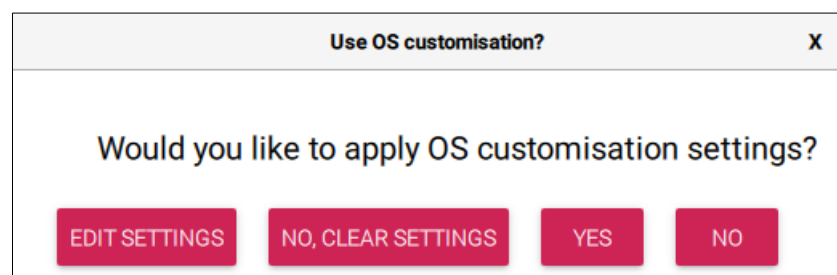

Figure 3. The “Use OS customization” tab.
- 5) Press “Next”, and the tab shown in figure 3 should appear; Select “Edit Settings” and configure the Wireless LAN with the information of the server to connect to when using the Raspberry Pi, and then select “Save”.
- 6) Finally, select “yes” for the tab shown in figure 3.